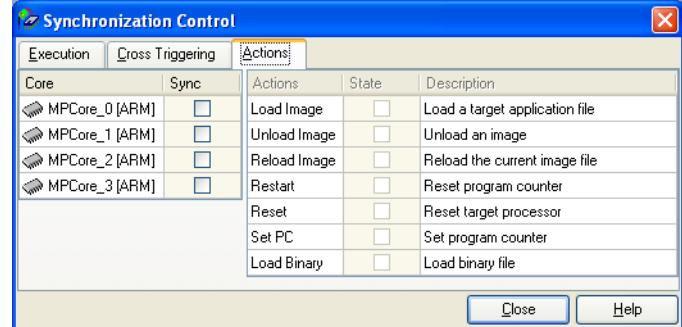

Figure 7-11 Synchronization Control window
2. Select **Synchronization Control...** from the **Target** menu to display the Synchronization Control window. Figure 7-11 shows an example: